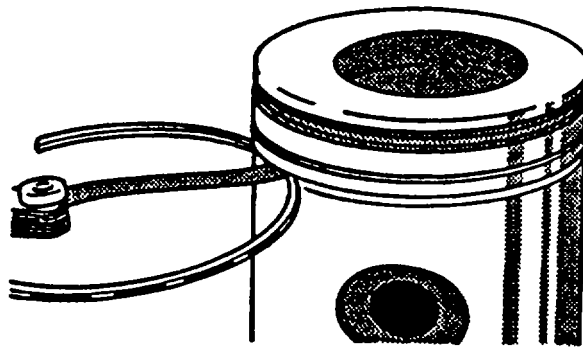

FIGURE 3-148. Checking Piston Ring Groove Clearance
- m. Check top ring groove using a new piston ring and feeler gage, refer to FIGURE 3-148. Ring groove clearance must not exceed 0.008 inch (0.20 mm) when measured between top of ring and ring land. If ring groove is worn, replace piston and liner as a matched set. If ring groove is good, proceed to next step.